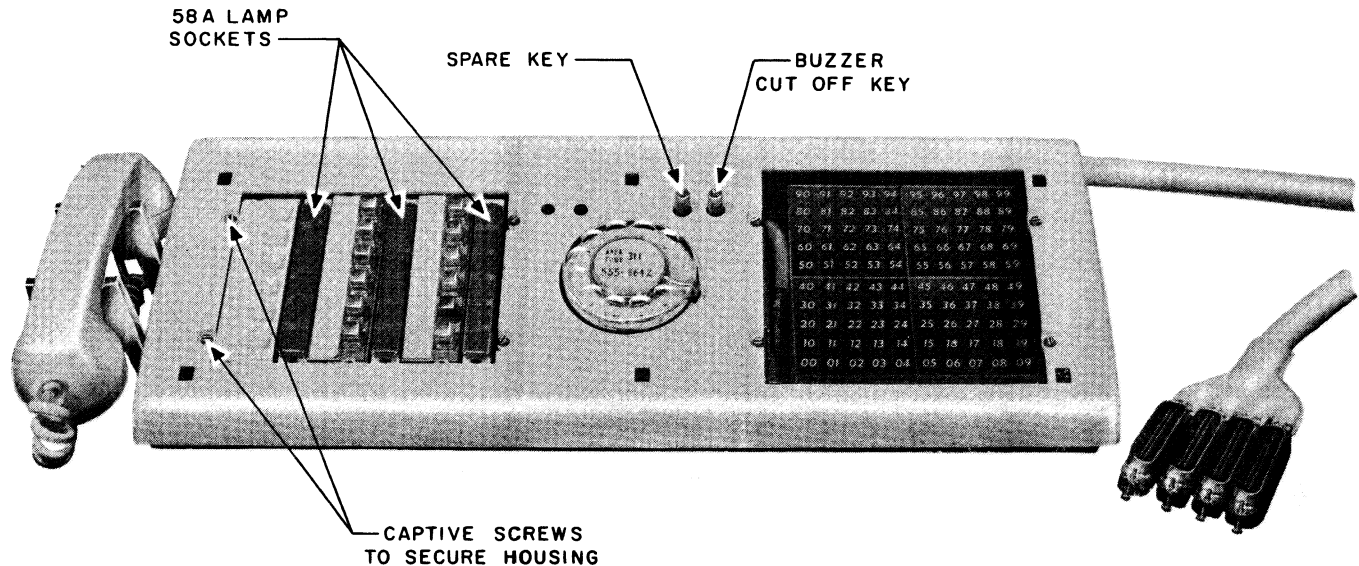

Fig. 3 - 6A1 Telephone Console (Bezel Removed)
**2.06** The 6A-type telephone console is equipped with a block key assembly P-13E976. It consists of a field of 100 lamps numbered 00 to 99 for station busy identification. (See Fig. 3.)
**2.10** The spare key and buzzer cutoff key as shown in Fig. 3 are coded switch assemblies P-15E391.
2. 5A-type: loosen four captive screws. 6A-type: loosen eight captive screws (see Fig. 3).